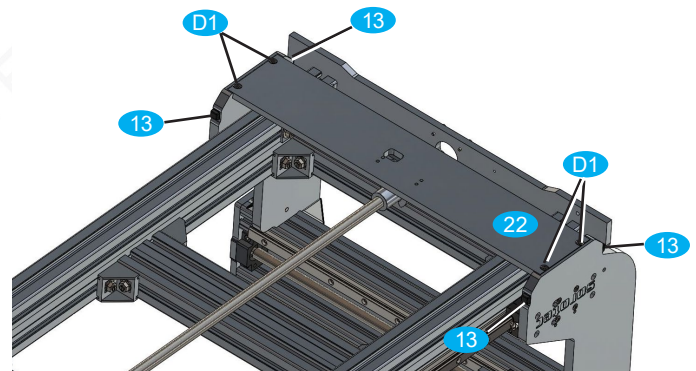

Fig. 20: Installation of girder portal beam
- Insert the portal beam **22** as shown in Figure 20 in the recesses in the portal cheeks and mount with cylinder screws **D1**; Tighten screws slightly